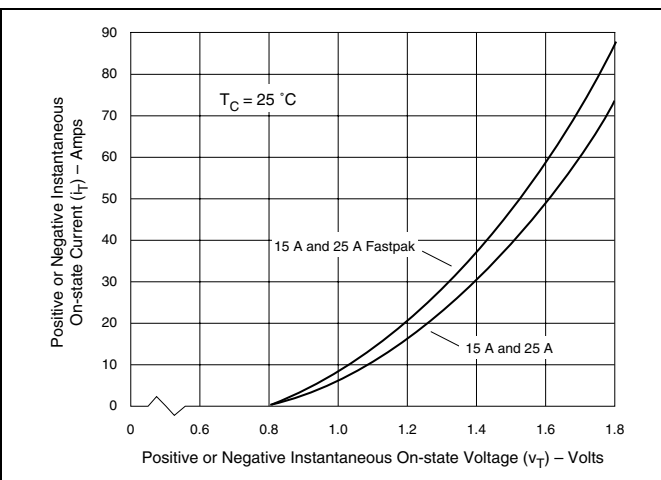
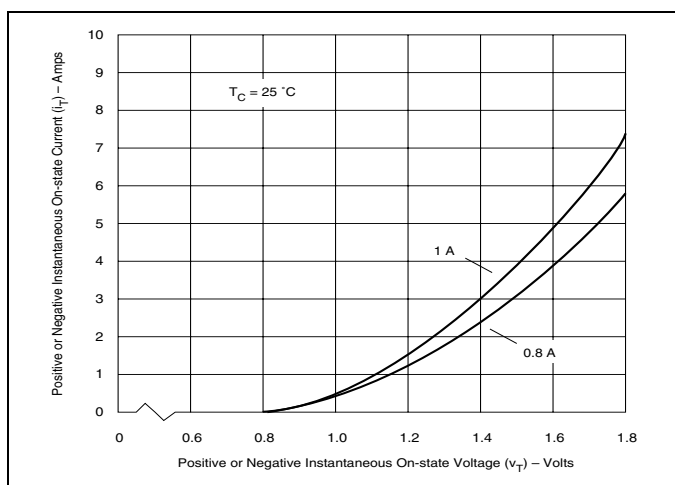

Figure E2.10 On-state Current versus On-state Voltage (Typical) (15 A and 25 A)
Figure E2.8 On-state Current versus On-state Voltage (Typical) (0.8 A and 1 A)
- (5) See Figure E2.8 through Figure E2.10 for  $i_T$  versus  $v_T$ .